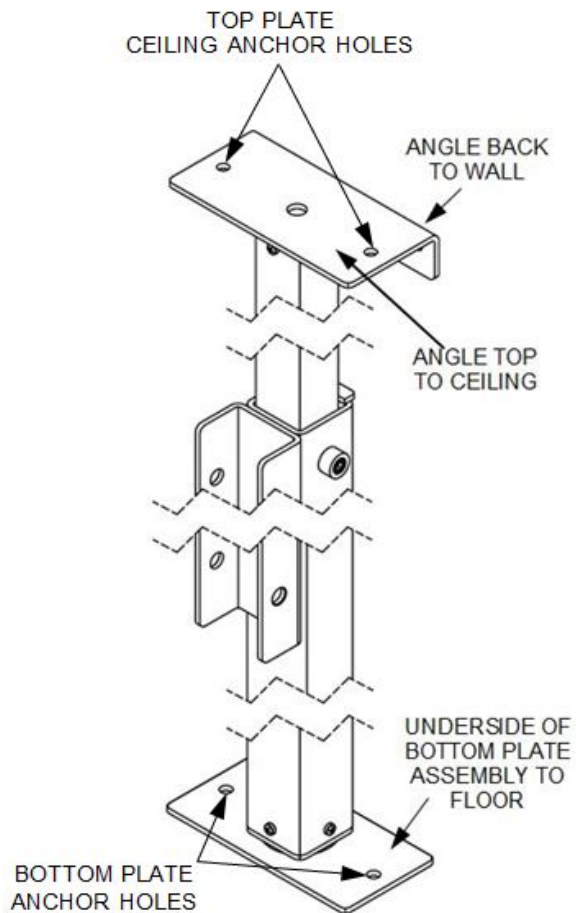

FIG. 2.4
- ✎ The Bottom Plate is anchored at 2 anchor points (FIG. 2.4).
- 2.1.7 Anchor Top Plate with two of the four anchor holes provided (FIG. 2.4).